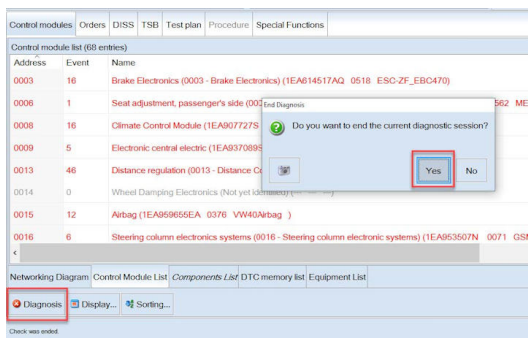

Figure 21: Diagnosis stop button
- End the diagnostic session with the diagnosis stop button (see figure 21).